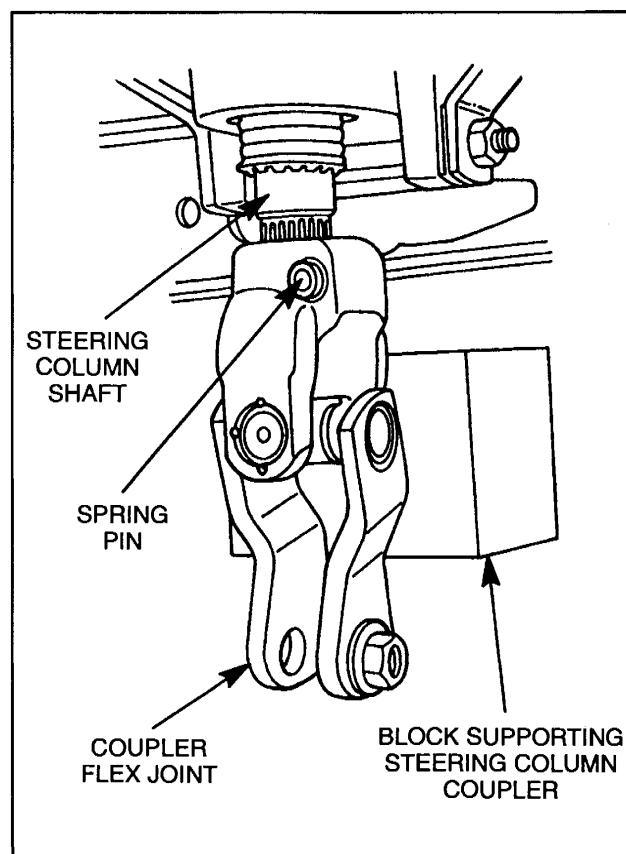

Fig. 6 Coupler Removal and Installation on Steering Column Shaft
CAUTION: Steering column shaft must be supported during removal of spring pin (Fig. 6). This is required to prevent damage to steering column bearings.
2. Remove the steering coupler from the steering shaft (Fig. 6) by removing the spring pin from the coupler and sliding the coupler end of the steering shaft.
CAUTION: Steering column shaft must be supported during installation of coupler spring pin (Fig. 6). This is required to prevent damage to steering column bearings.
1. Install the steering coupler on the steering shaft until correctly positioned to allow the spring pin to be installed in the coupler. Then install the spring pin into the coupler until it is flush with the surface of the steering coupler (Fig. 6).